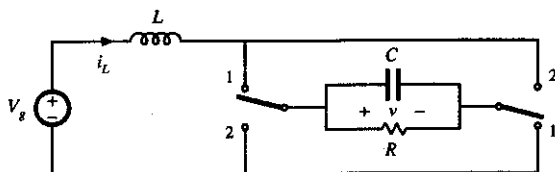

Fig. 2.31
- 2.5 The switches in the converter of Fig. 2.31 operate synchronously: each is in position 1 for  $0 \leq t \leq DT_s$ , and in position 2 for  $DT_s \leq t \leq T_s$ . Derive an expression for the voltage conversion ratio  $M(D) = V/V_g$ . Sketch  $M(D)$  vs.  $D$ .